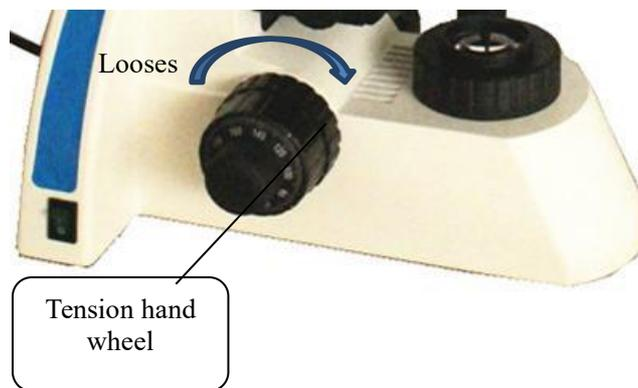

Figure 07
- A) Loosen the limit handle shown in Figure 07 and turn it into the 10X objective into the light path, and slowly turn the coarse moving handwheel until the image is clear in the eyepiece. Roughly clear, then slowly rotate the micro motion handwheel to make the imaging clear. Turn to other times objective, it should be properly rotate the hand wheel to make the image clear. The minimum scale handwheel is 0.002mm.
- B) For convenience observation and avoid objective to touch with the slider, use stopper when focusing well (figure 07).